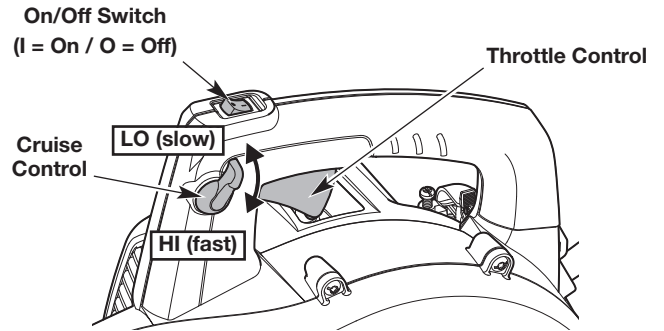

Fig. 3
NOTE: There is no need to turn the unit on. The On/Off switch is in the **On (I)** position at all times (Fig. 3).
4. Squeeze and hold the throttle control or move the cruise control to the **HI (fast)** position (Fig. 3).
NOTE: Continue to **SQUEEZE and HOLD** the throttle control, or **keep the cruise control in the HI (fast) position, for ALL further steps (Fig. 3).**
2. Press and hold the On/Off switch in the **Off (O)** position until the engine comes to a complete stop (Fig. 3).
- Use the cruise control to make continuous operation easier (Fig. 3).